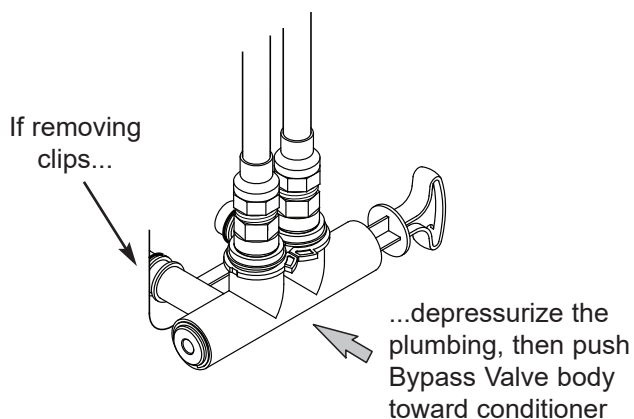

FIG. 14
7. Check for leaks around clips at conditioner’s inlet and outlet. If a leak occurs at a clip, depressurize the plumbing (turn off the water supply and open faucets) before removing clip. When removing clips at the conditioner’s inlet or outlet, push the single bypass valve body toward the conditioner (see Figure 14). Improper removal may damage clips. Do not reinstall damaged clips.